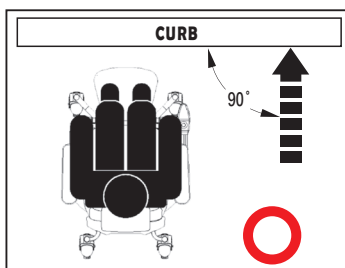

Figure 2. Correct action
1. Approach the curb or obstacle slowly, and make sure the power chair is traveling perpendicular to the obstacle. (See figure 2)